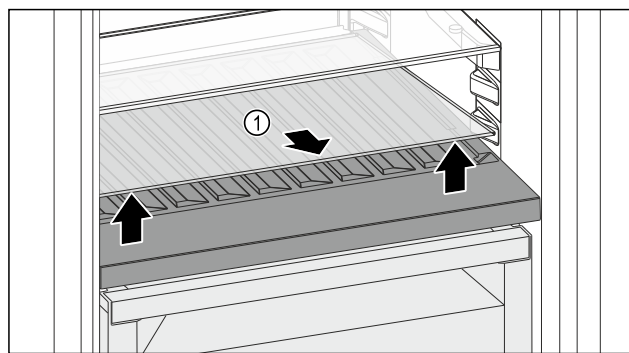

Fig. 96
- Lift the glass shelf Fig. 96 (1) in the front at the recess and pull it out.
- Store the glass shelf Fig. 96 (1) somewhere safe outside of the appliance.